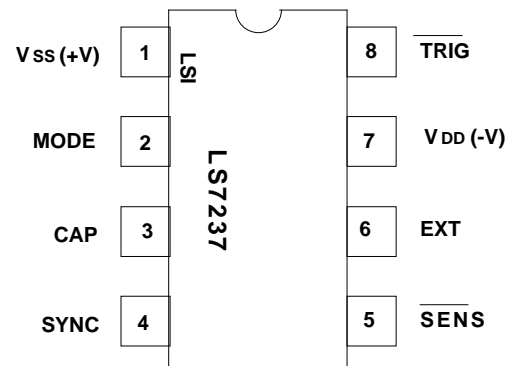

FIGURE 1
- 8-Pin Plastic DIP , 8-Pin SOIC-See Figure 1